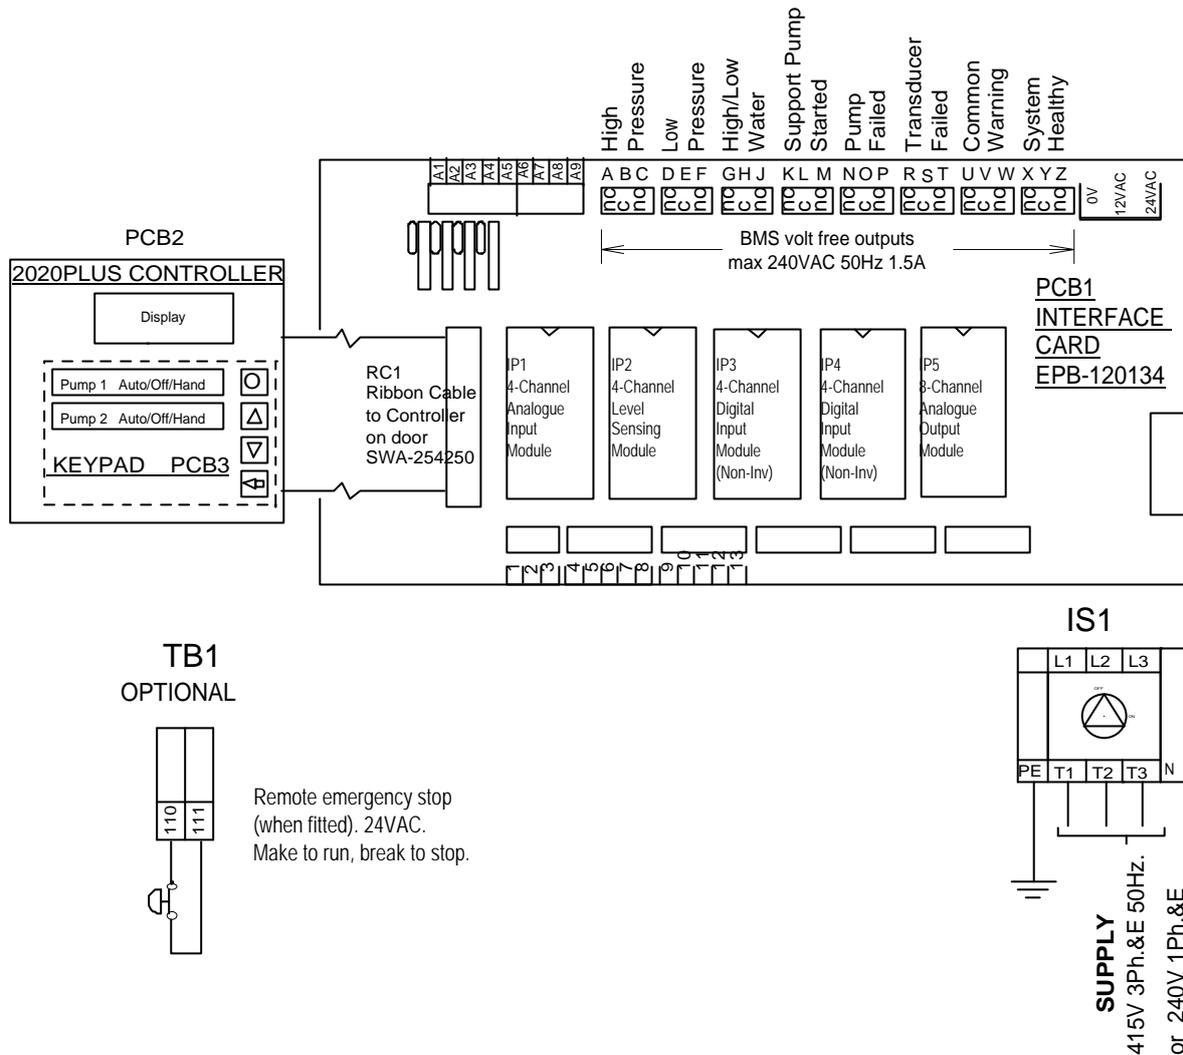

Fig. 1.3 Typical example of electrical connections
- 1.3.6.3 Connect incoming electrical mains supply to identified terminals on isolator IS1 in panel (see fig. 1.3). Ensure voltages and frequency indicated on the motor nameplates and wiring diagrams correspond with supply mains data and that the supply fuse type & rating is correct for the total current rating of the equipment. Note: some 3 phase units may require Neutral supply for special applications. Refer to wiring diagram supplied with the unit or AquaTech-Pressmain.
- 1.3.6.4 Where optional remote fault signal is required connect volt free terminals in control panel to remote panel. See fig 1.3 and wiring diagram provided.